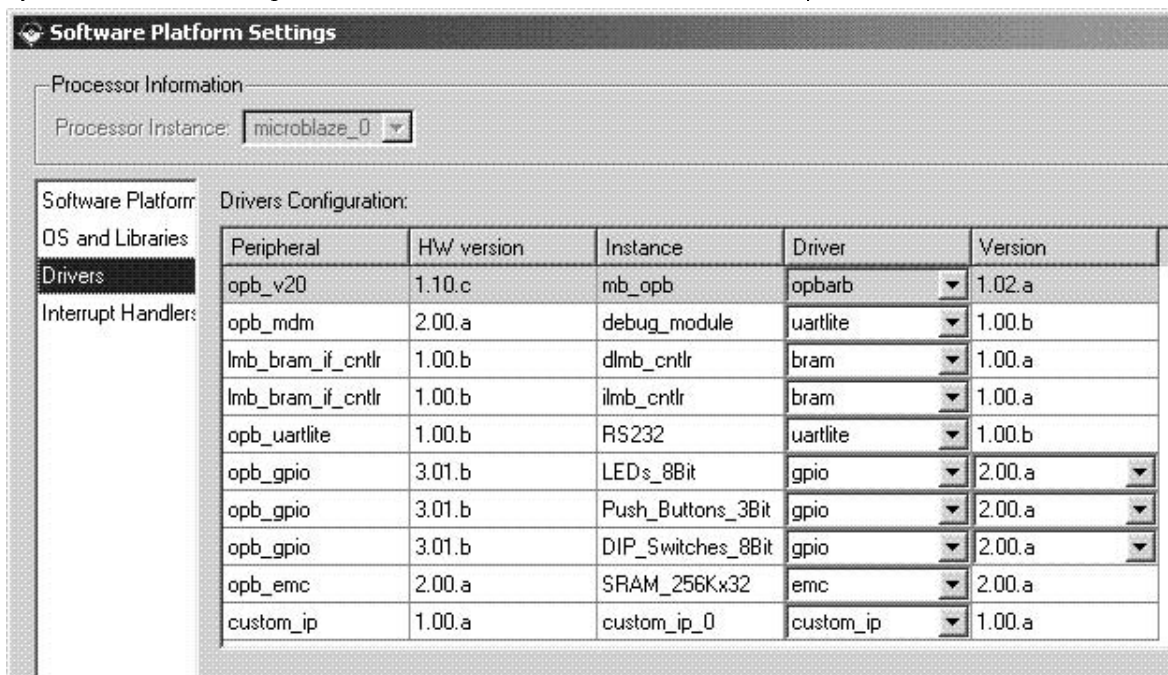

Figure 25: Drivers view
- Select the Drivers view. This view allows you to select the software versions for the peripherals in the system as shown in Figure 25. Notice that the driver version is independent of the HW version.